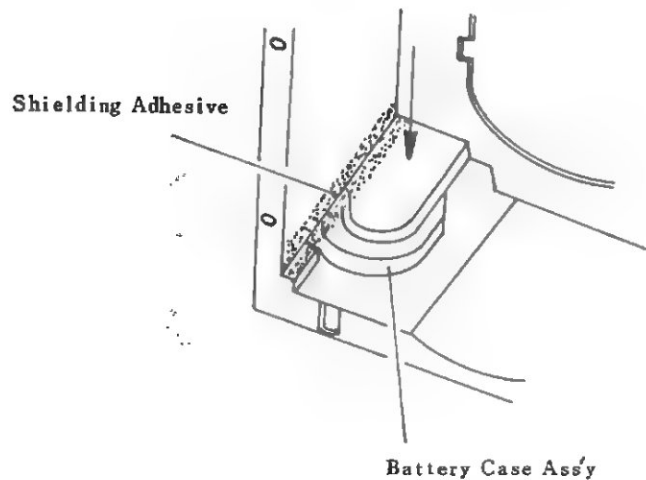

Fig 35
d) Remove the Shielding adhesive from around the Battery case (Fig 35).
e) Pushing the Battery Case downward in direction of arrow as shown in (Fig 35)